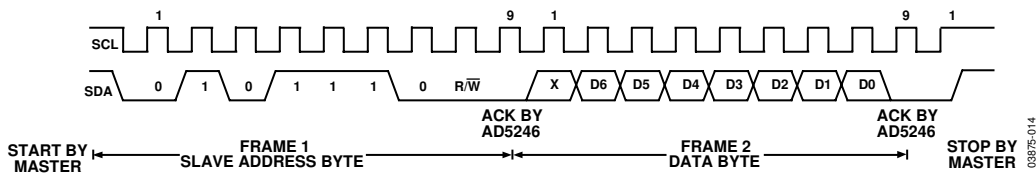
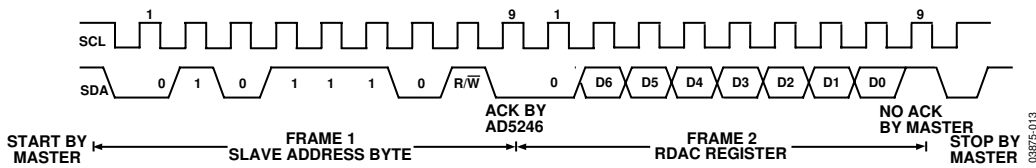

Figure 27. Writing to the RDAC Register
Figure 28. Reading from the RDAC Register
1. The master initiates data transfer by establishing a START condition, which is when a high-to-low transition on the SDA line occurs while SCL is high (see Figure 27). The following byte is the slave address byte, which consists of the 7-bit slave address followed by an $\overline{R/W}$ bit (this bit determines whether data will be read from or written to the slave device).
3. In read mode, after acknowledgement of the slave address byte, data is received over the serial bus in sequences of nine clock pulses (a slight difference from the write mode where eight data bits are followed by an acknowledge bit). Similarly, the transitions on the SDA line must occur during the low period of SCL and remain stable during the high period of SCL (see Figure 28).
4. When all data bits have been read or written, a STOP condition is established by the master. A STOP condition is defined as a low-to-high transition on the SDA line while SCL is high. In write mode, the master pulls the SDA line high during the tenth clock pulse to establish a STOP condition (see Figure 27). In read mode, the master issues a No Acknowledge for the ninth clock pulse (that is, the SDA line remains high). The master then brings the SDA line low before the tenth clock pulse, which goes high to establish a STOP condition (see Figure 28).